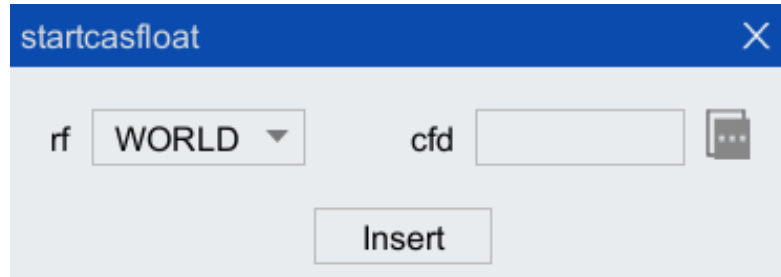

Figure 5-2 Parameter configuration interface
Step2. Click [startcasfloat] in the selection menu, and the configuration interface shown in Figure 5-2 will pop up. Configure the parameter [rf], the parameter description is shown in Table 5-2.